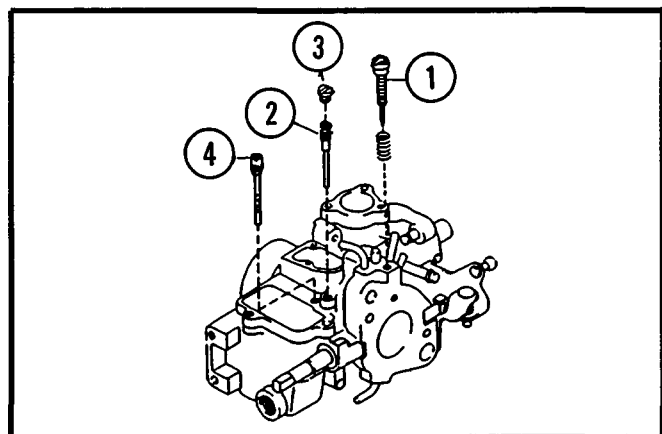

Figure 19.
1. Assemble the idle adjusting screw, slow jet, slow jet plug and main air bleed. See Figure 19.